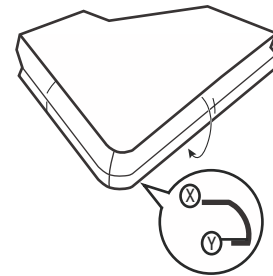

Figure 13. Apply adhesive promoter between X and Y
2. Apply adhesive promoter to the edges, starting about 1/2 inch from where the shape changes (see Reference X) and extending to the back side of the surface for at least 1/2 inch (see Reference Y). Allow the adhesive promoter to dry to improve adhesion and minimize shrinkage. See Figure 13.